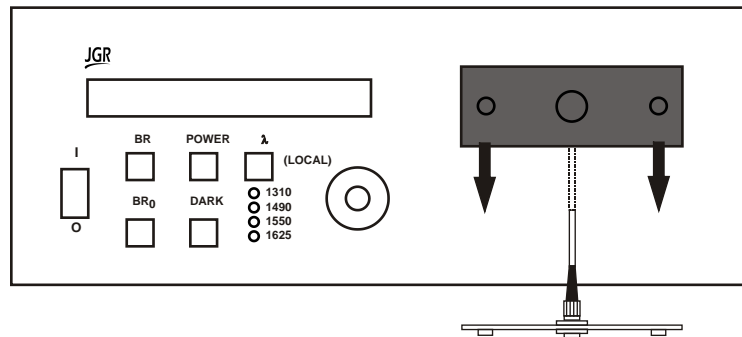

Figure 15: Removing Connector Panel
2. Loosen the retaining screws of the connector panel, and remove the panel carefully to access the internal connectors (Figure 15).